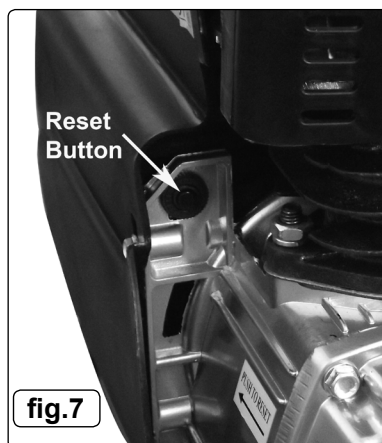

fig.7
**Thermal cut out:** If the unit overheats the thermal cut out will operate and shut the unit down. Allow the unit to cool down then press the reset button, located just inside the pump cover (fig.7).